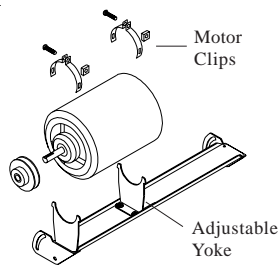

Fig. 1
- **Mount motor.** Install blower motor in the motor mount yokes, adjusting the yoke if necessary. Fasten with the provided mounting clips (see Fig. 1).